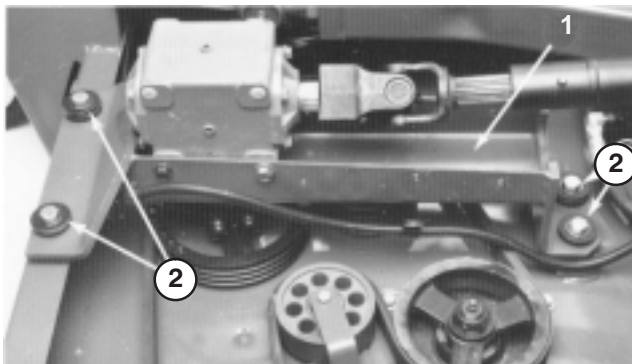

Figure 74
4. Remove the 2 flange head screws securing drive shaft cover to gear box support (Fig. 74) and remove cover.
5. Remove capscrews and nuts securing front of gear box support to deck channels and loosen capscrews securing rear of gear box support to deck channels (Fig. 74).